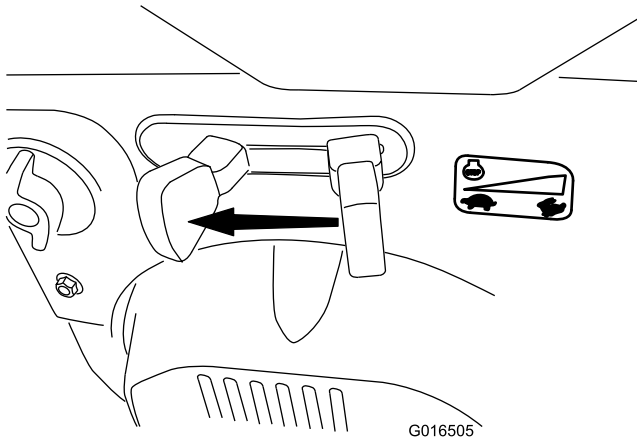

Figure 30
1. Move the throttle to the SLOW position, and then to the STOP position (Figure 30) to shut off the engine. The engine can also be stopped by pulling the ignition key outward to the middle position.